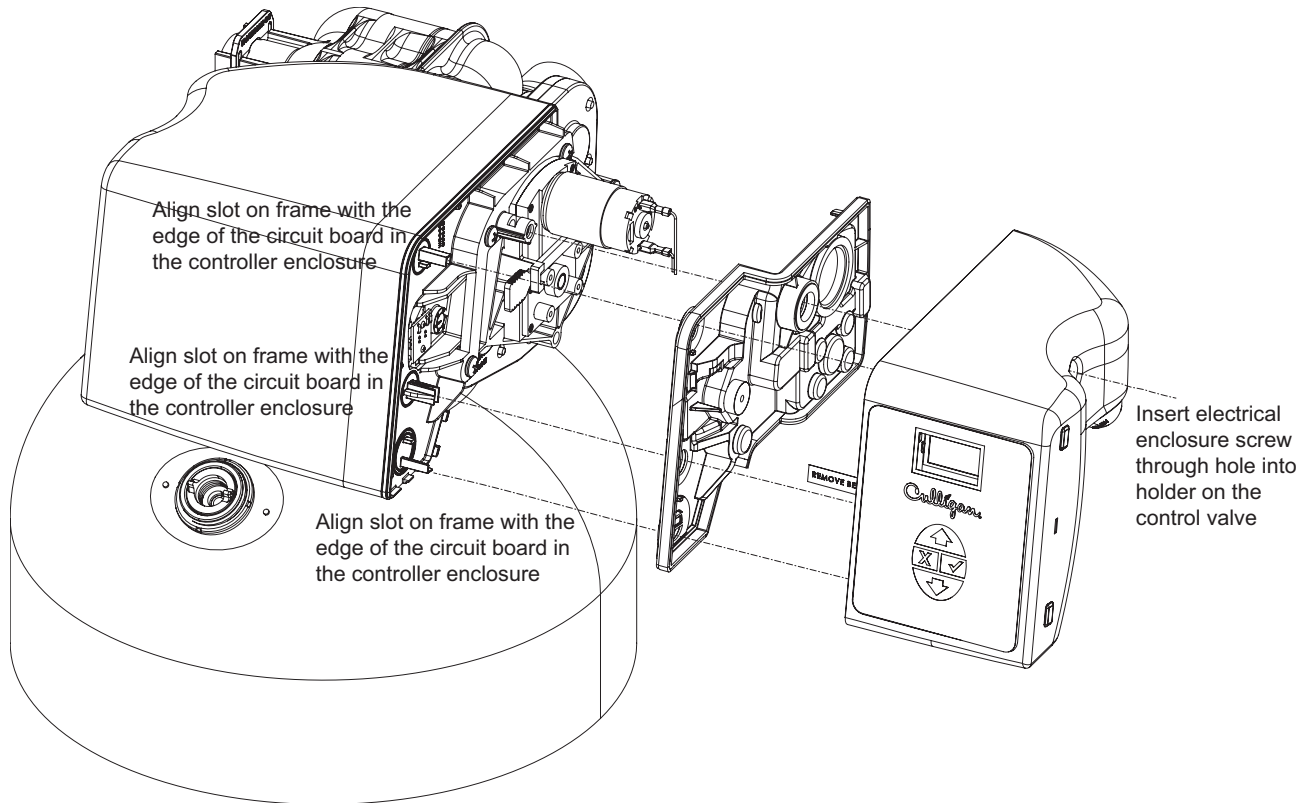

Figure 35. Attaching enclosure cover to control valve.
1. Align the circuit board in the enclosure with the three support brackets on the control valve frame. See Figure 35.